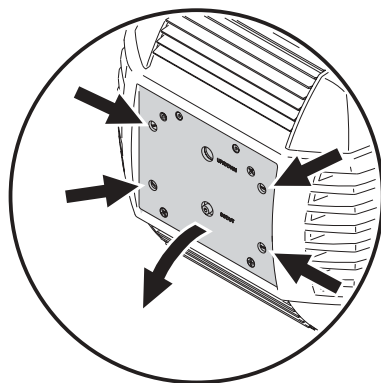

Figure 1: Lamp access
2. Release the 4 quarter-turn fasteners marked with arrows on the lamp access plate, as shown in Figure 1. Pull the lamp assembly straight back as far as it goes and let it rest in place.